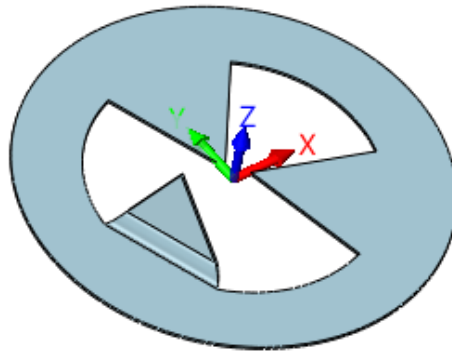

Figure41 Fold by line Result
STEP 03 Fold result is shown in Figure 41.